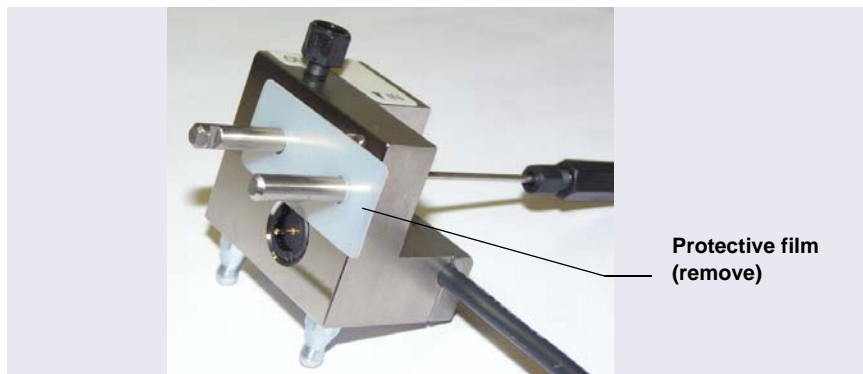

Figure B-3. Removing the ED Cell Protective Film
5. Remove the protective film from the alignment pins on the cell body (see Figure B-3).